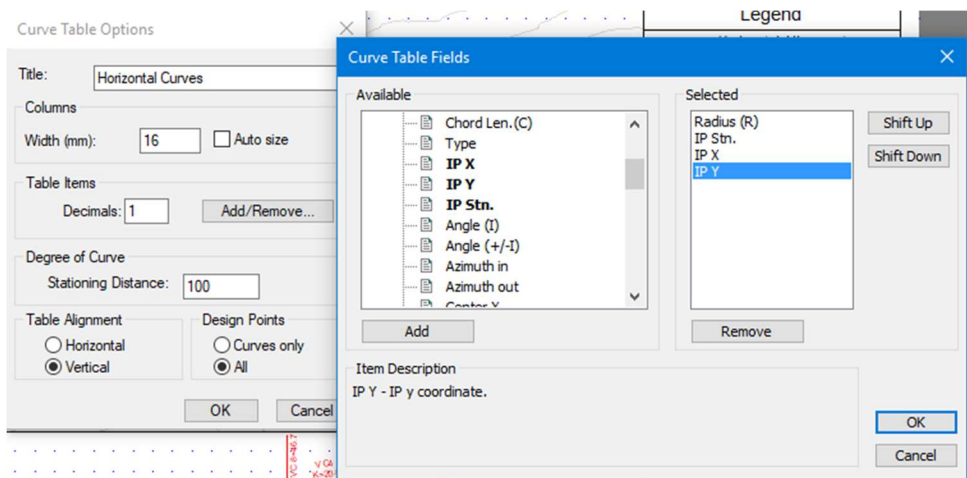

Figure 22-18: Horizontal Curves Table Options Dialogue Boxes
25. Add and Remove items (<double-click> works) until you have only **Radius (R)**, **IP Stn**, **IP X** and **IP Y** in the *Selected* column as in Figure 22-18.